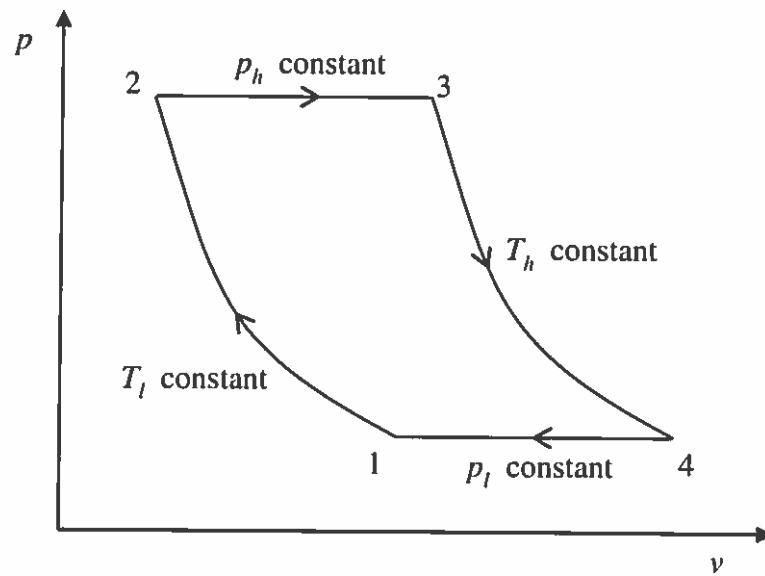

Fig. 4
6. (long) An ideal Ericsson cycle operates with maximum and minimum temperatures T_h and T_l , respectively, and maximum and minimum pressures p_h and p_l , respectively, as shown in Fig. 4. Assume that the cycle fluid is air which can be treated as a perfect gas with gas constant R and specific heat capacity at constant pressure c_p .